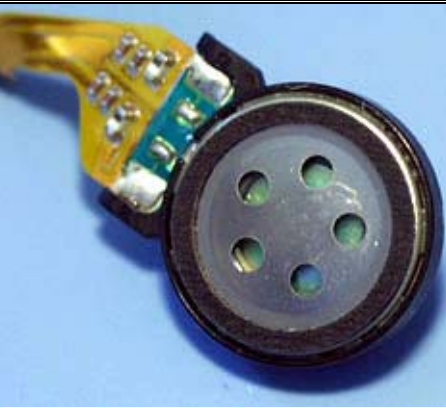

Fig. 4.1
- Check if the speaker (*Fig. 4.1*) is mechanically damaged, dirty or oxidized. Replace it if necessary.